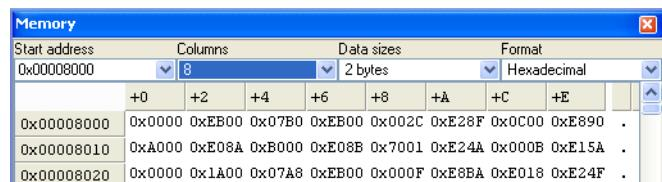

Figure 13-37 Number of columns list in Memory view
2. Select the required number of columns to display from the Number of columns list in the Memory view toolbar. Figure 13-37 shows an example: